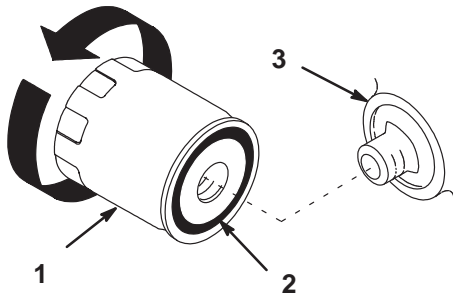

Figure 39
2. Remove the old filter and wipe the filter adapter (Fig. 39) gasket surface.
4. Apply a thin coat of new oil to the rubber gasket on the replacement filter (Fig. 39).
5. Install the replacement oil filter to the filter adapter. Turn the oil filter clockwise until the rubber gasket contacts the filter adapter; then tighten the filter an additional 1/2 turn (Fig. 39).